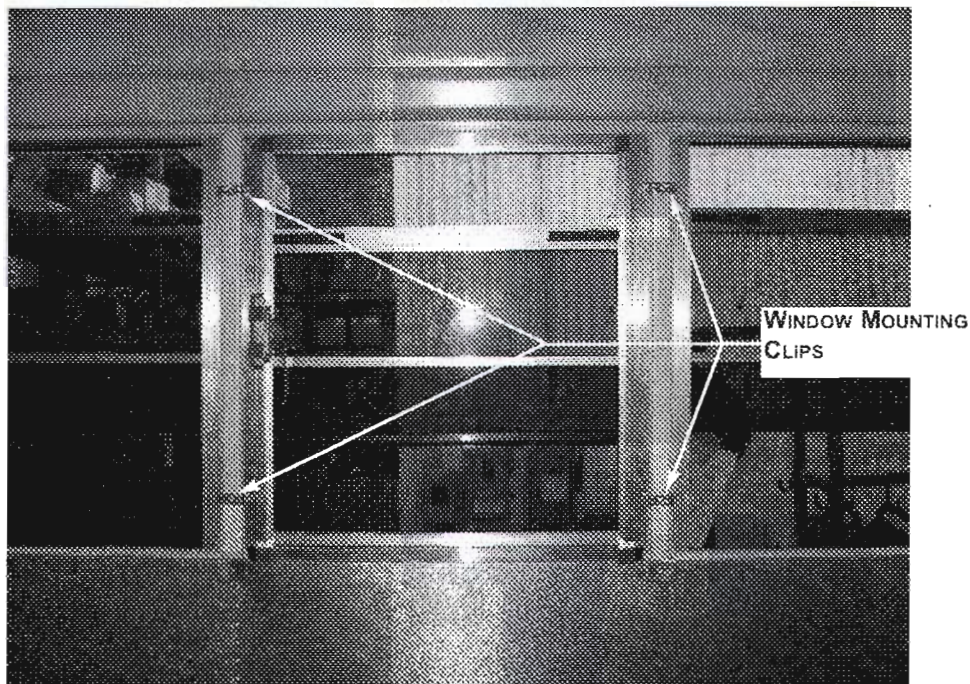

FIGURE 1
1. Remove the four (4) window mounting clips that retain the window in the opening; retain. **Figure 1**